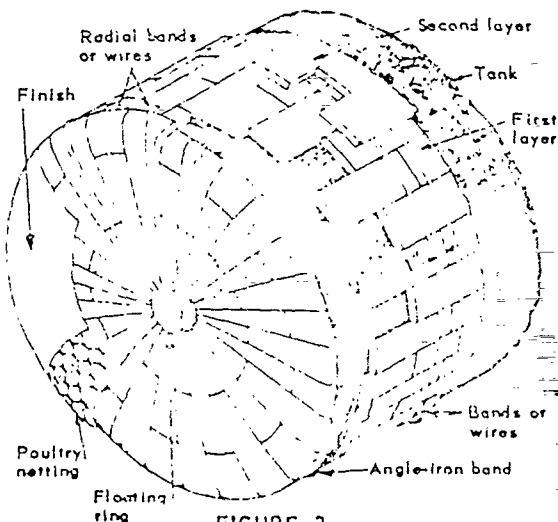

FIGURE 3
3.4 The insulation on heads or ends of cylindrical equipment shall be secured by tight bands or wires that are not over 3 inches apart and fastened to clips, angle iron bands or steel bands encircling the tank behind the rivet bands or circumferential head weld. See Figure 3. The insulation on the cylindrical tank shall be held in place at the center of the bands by radial wires or bands fastened to clips or a floating ring. Fibrous Adhesive, Code 803, can be used to support insulation on overhead surfaces until bands or wires can be applied. All chipped edges, cracks or imperfections shall be filled and smoothed with Insulation Cement, Code 502. Over the insulation and bands apply Poultry Netting, Code 714, drawn tight and laced into place.